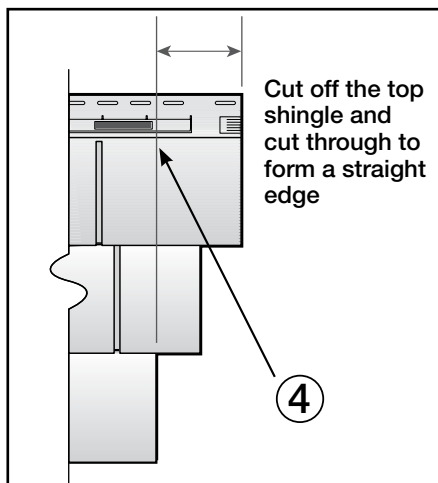

figure 1
1. Create a straight edge on the right side of the panel by cutting the top two shingles so they are flush with the bottom shingle, as shown in figure 1. Cut 4" off the top course of the panel at the 4 mark on the tape measure located on the hanger, below the nail slots.